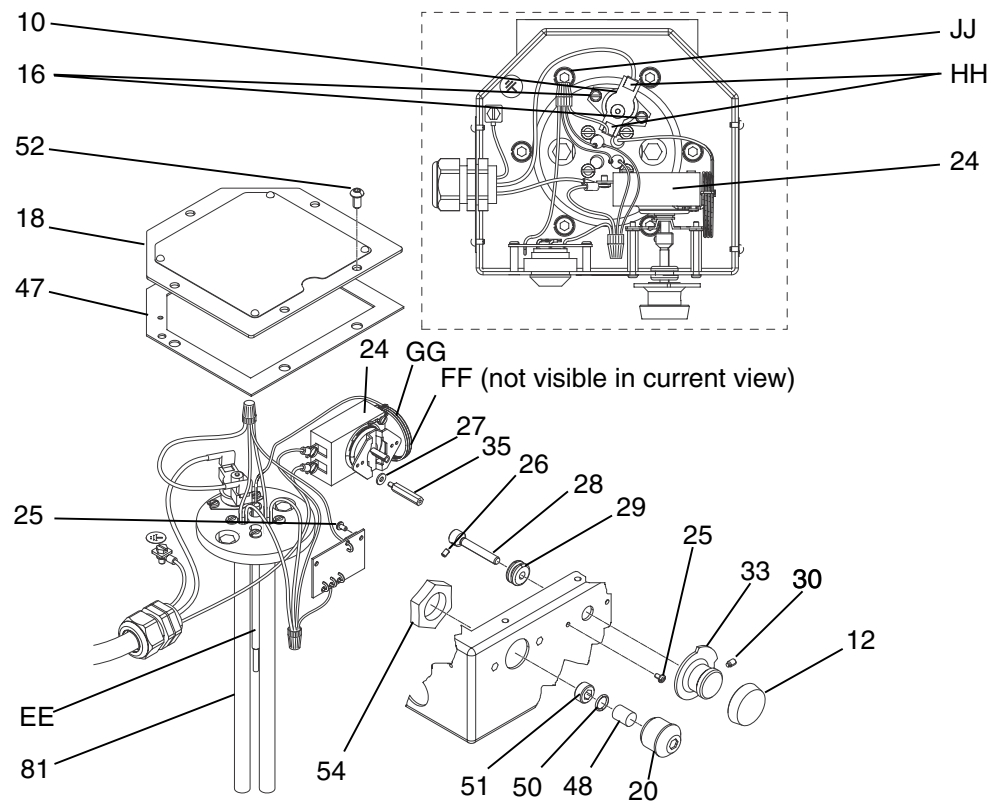
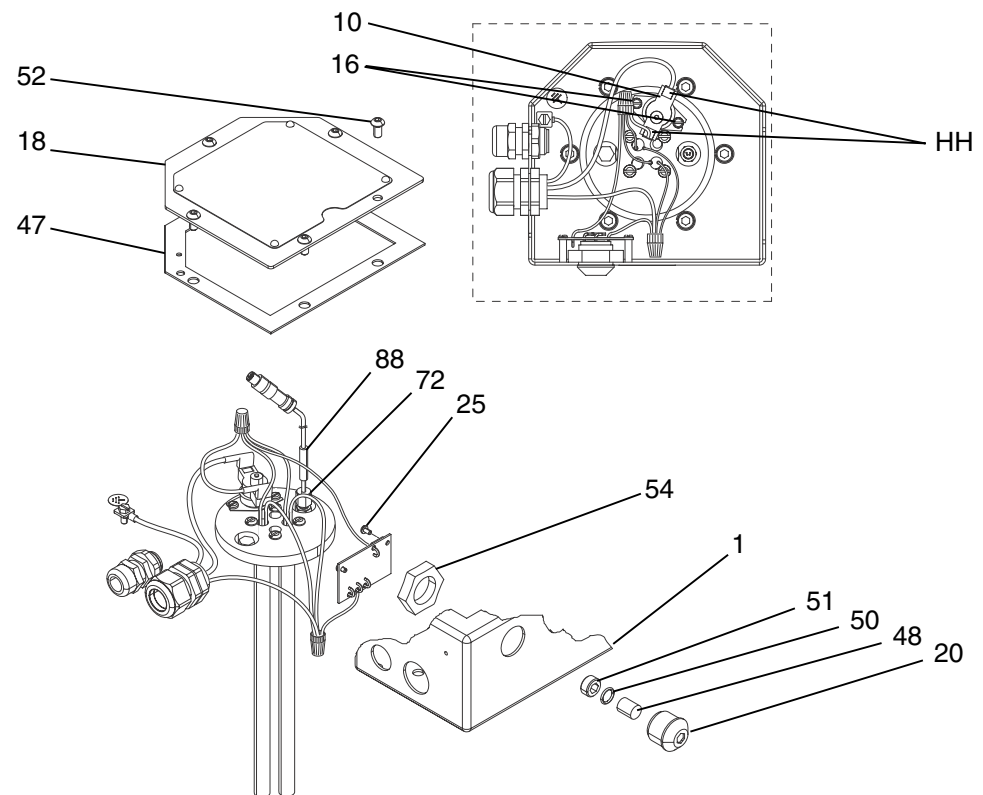

FIG. 10: Thermostat Repair - 24P016
FIG. 11: Sensor Repair - 262853
(Model 24P016 Only, see FIG. 10 on page 17)
- Refer to FIG. 10 or FIG. 11 on page 17 for wiring connections.
- *Model 262853 only:* Make sure the core (68) is aligned with the plug (82) pin in housing (67).
- Make sure gasket (47) is installed and aligned with electrical housing screw holes.
- Secure cover (18) with screws (52). Torque screws to 85-90 in-lb (10 N•m).